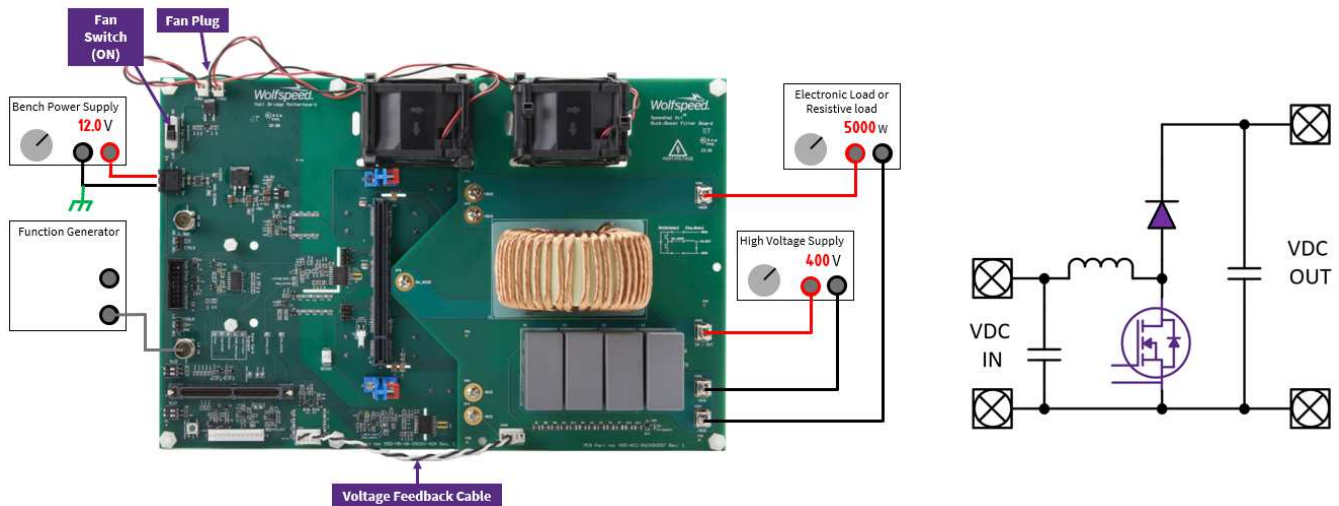

Figure 52: Connection Diagram for Asynchronous Boost Converter
- Connect buck/boost filter board to the motherboard using the 5 screws and terminal nuts on the motherboard (Figure 52).